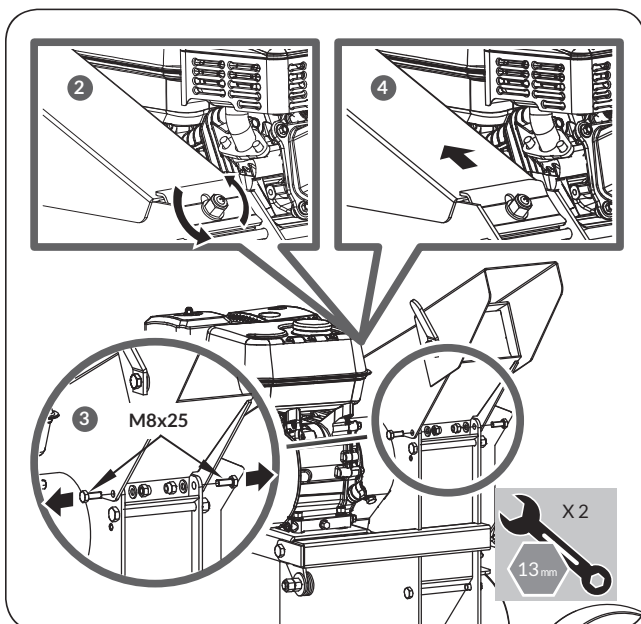

Figure 14
4. Remove the discharge chute. (See **Figure 14**)